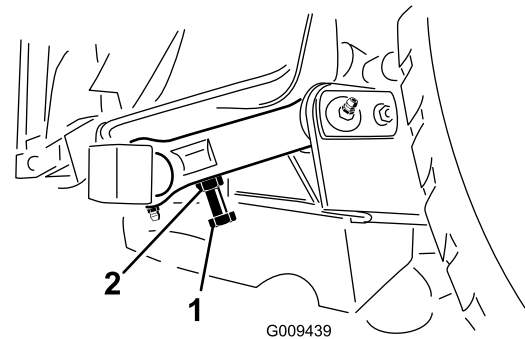

Figure 27
3. To adjust distance, locate adjuster bolt on rear pivot link of cutting unit (Figure 27). Loosen jam nut on adjuster bolt. Loosen or tighten adjuster bolts until 0.38-0.62 inch (10-16 mm) clearance is attained, then tighten jam nut.